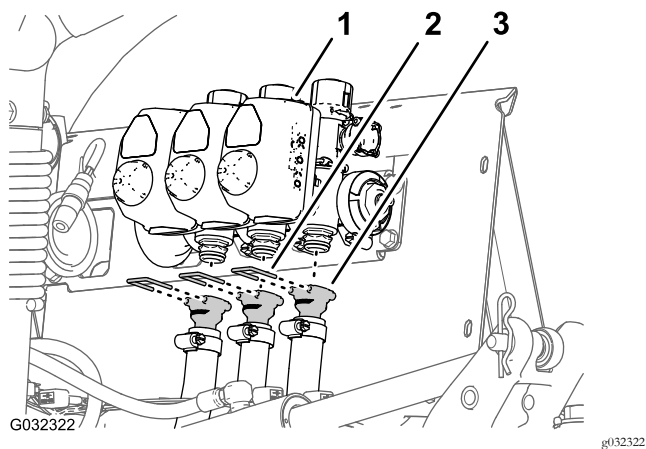

Figure 49
- Remove the retainers that secure the straight barbed fittings to the left, center, and right boom-section valves (Figure 49).
- Remove the hoses for the left, center, and right boom-section valves from the machine (Figure 49).